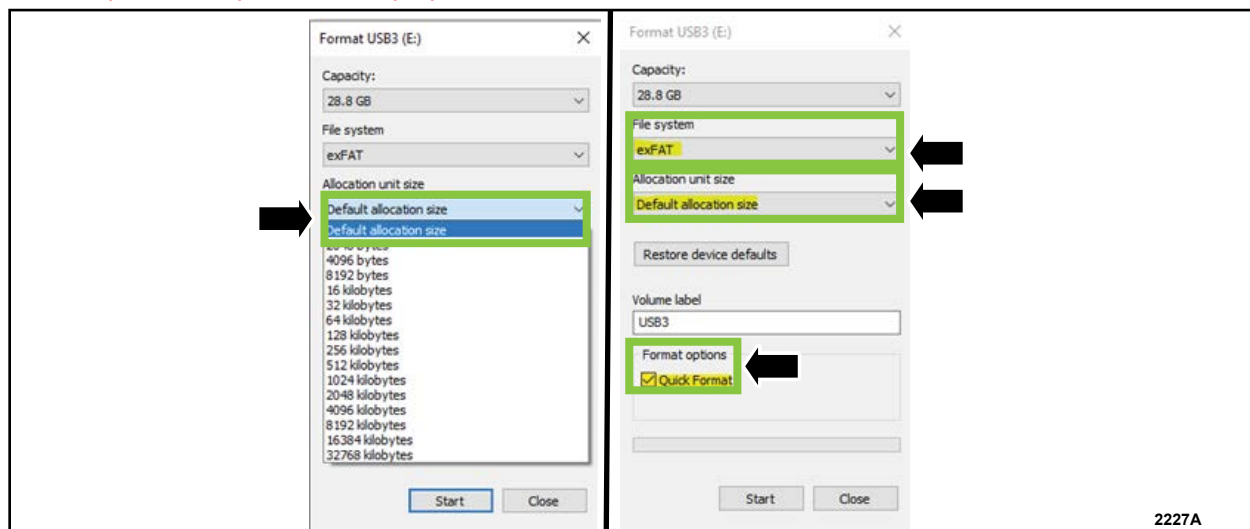

FIGURE 1
- d. De-selecting Quick Format is not necessary and will result in a lengthier operation. See Figure 1.